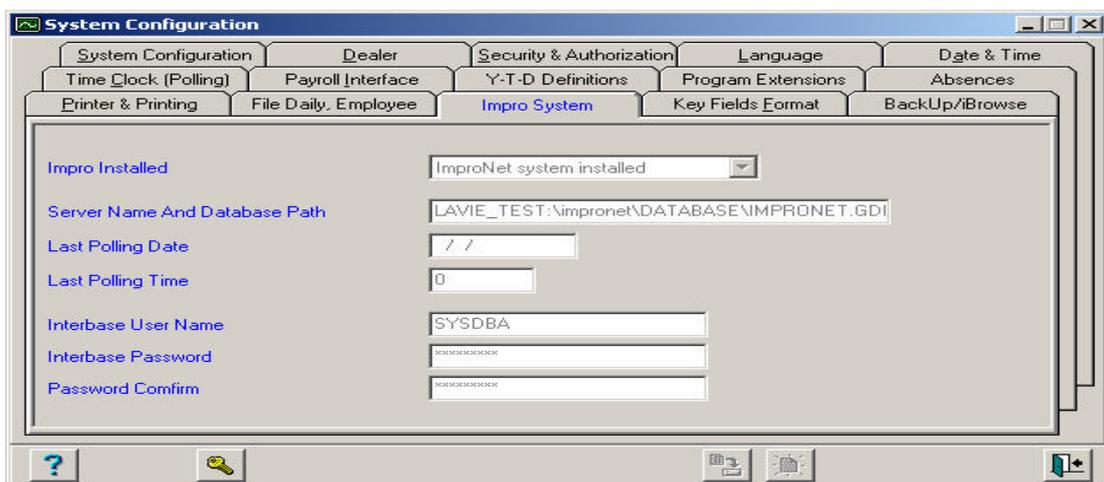

Fig. 1
1. ImproNET Integration Activation i.e. “IMPRO System” tab (figure 1)